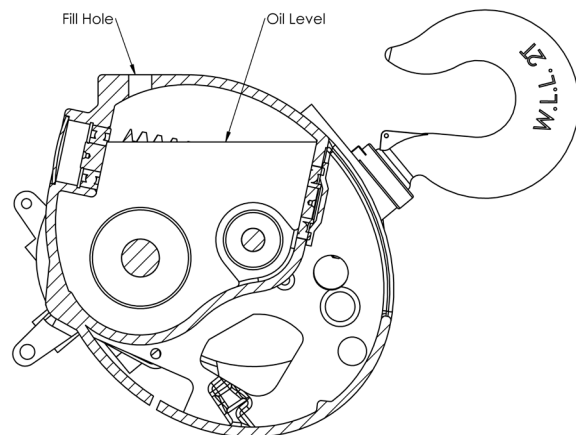

Figure 6-2
7. Tilt the hoist (Figure 6-2) and pour 1 litre of Meropa 320 (regular), Meropa 220 (synthetic), or equivalent. The oil will not leak if the hoist is properly tilted.